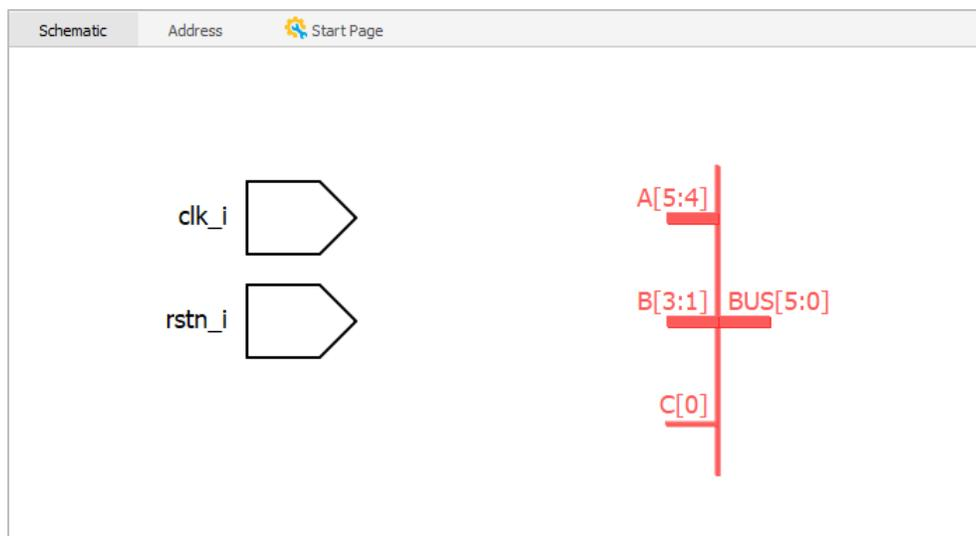

Figure 2.24. Schematic View Shows a Concat Module
3. Click **OK**. The schematic block for the concat module in red appears in the Schematic view (Figure 2.24). you can drag and connect them with the rest of design.